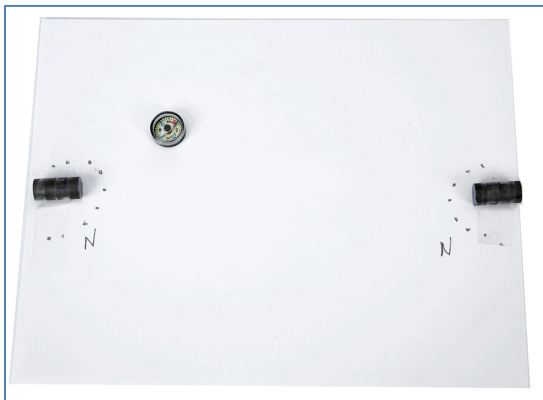

Figure 3: Repulsive Dipole
1. Set up as before with the two north ends facing. Draw a semi-circle of nine dots around each North pole. Tape the magnets to the paper so they will not roll. See Figure 3.